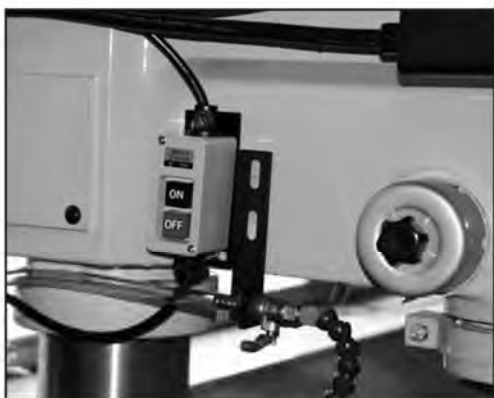

Figure 8 Suggested installation
4. Position the power switch and valve bracket on the spindle casting. Mark mounting hole locations and drill holes. (Refer to Figure 8)